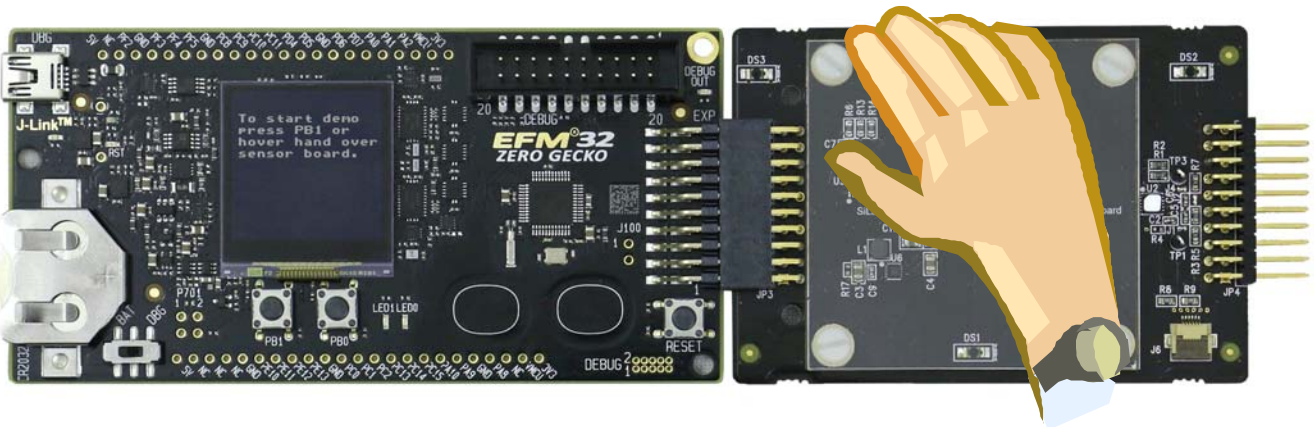

Figure 9. Hover Gesture
Hover hand to create a proximity event (Figure 9).
- Updated Figure 9 on page 9.